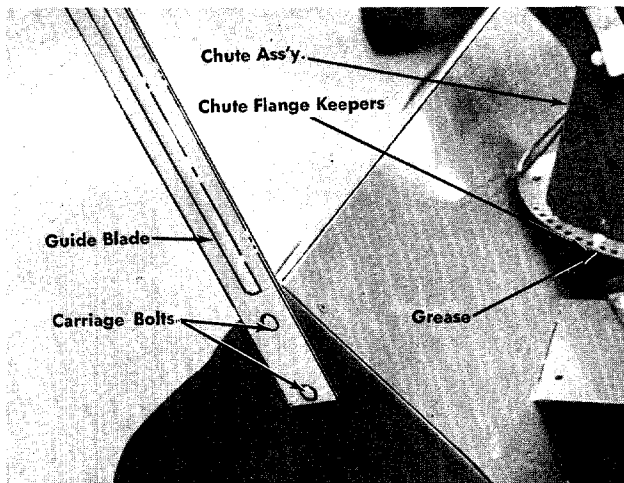

**FIGURE 18. ASSEMBLY OF HELPER SPRINGS**
- a. Hook one end of helper spring in notch provided on snow thrower. See figure 18.
- b. With a coat hanger and screwdriver pull the other end of helper spring up into position on grille mount. See figure 18.